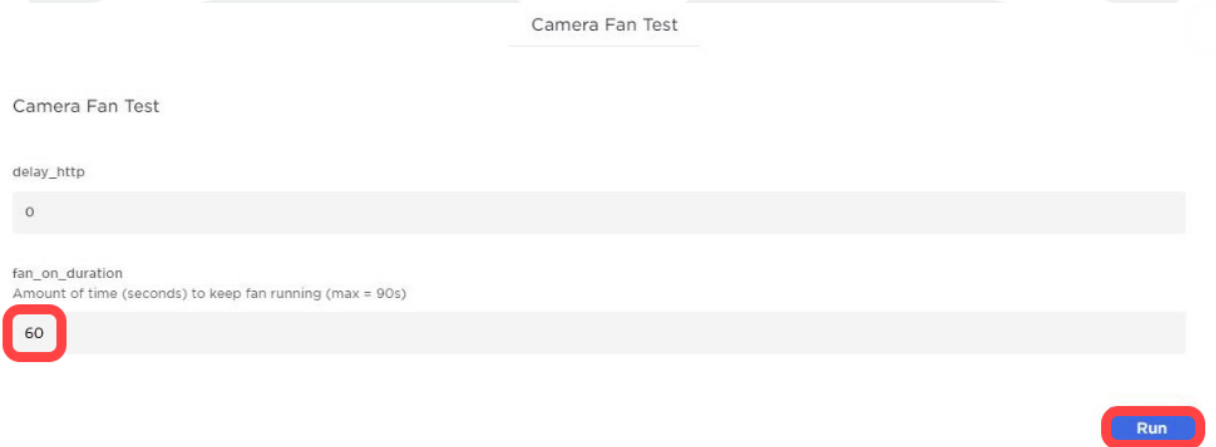

Figure 5
9. When prompted, set “fan_on_duration” to “60”, and then click **Run** (Figure 5).